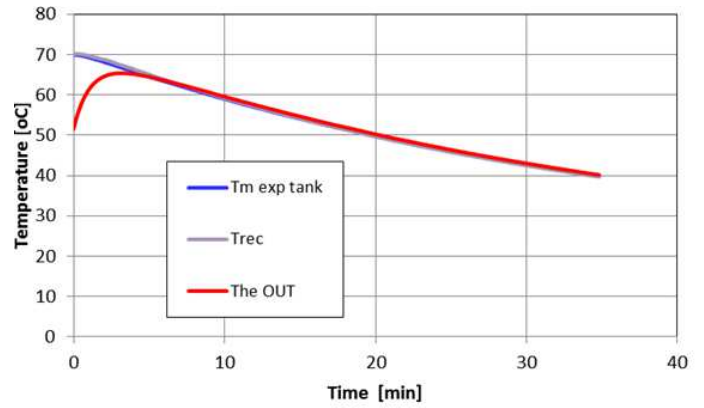

Figure 2- Source: NCSR "Demokritos"
- ✓ **Almost zero deviation between charging and supply temperature ($\Delta T=1$) (see figure 2)**